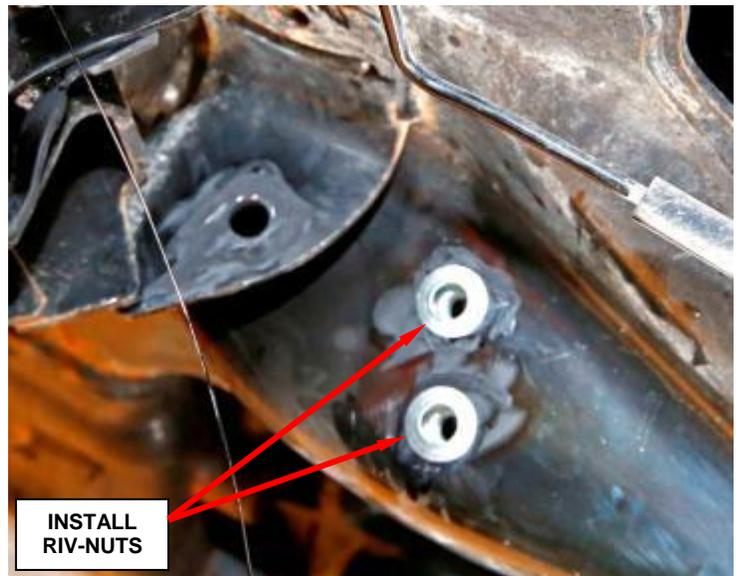

Figure 21 – Install Riv-Nuts into 17/32” Holes
37. Remove all burrs from remaining holes to ensure that the head of the riv nut sits flush against the frame surface (Figure 21).